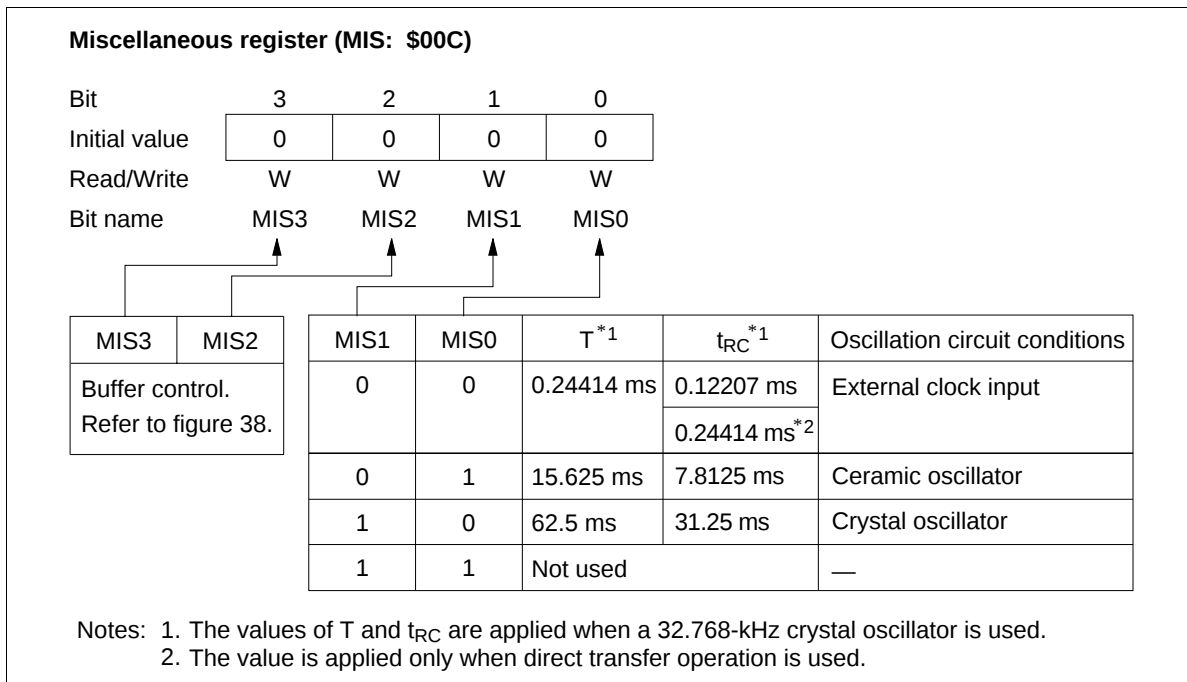

Figure 18 Miscellaneous Register (MIS)
Interrupt Frame: In watch and subactive modes, ϕ_{CLK} is applied to timer A and the $\overline{INT}_0$ circuit. Prescaler W and timer A operate as the time-base and generate the timing clock for the interrupt frame. Three interrupt frame lengths (T) can be selected by setting the miscellaneous register (MIS: \$00C) (figure 18).